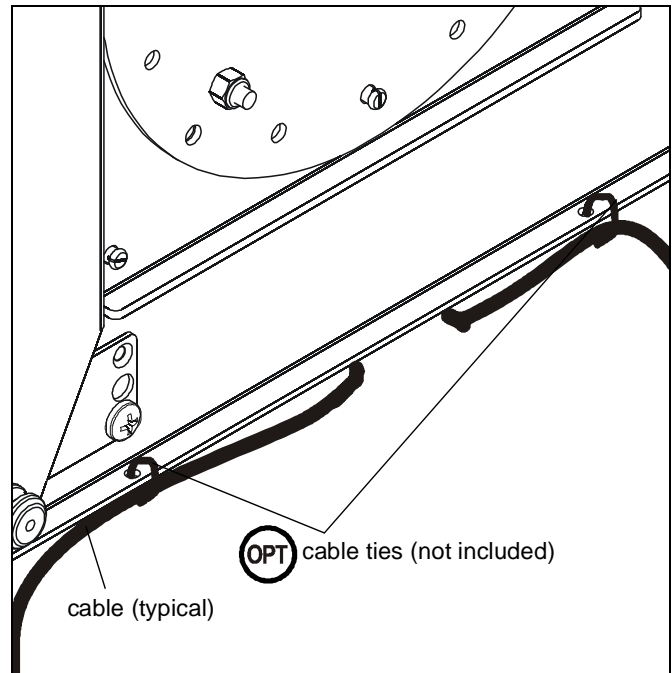

Figure 5
1. Use holes on outside bends to tie wires for cable management. (See Figure 5)